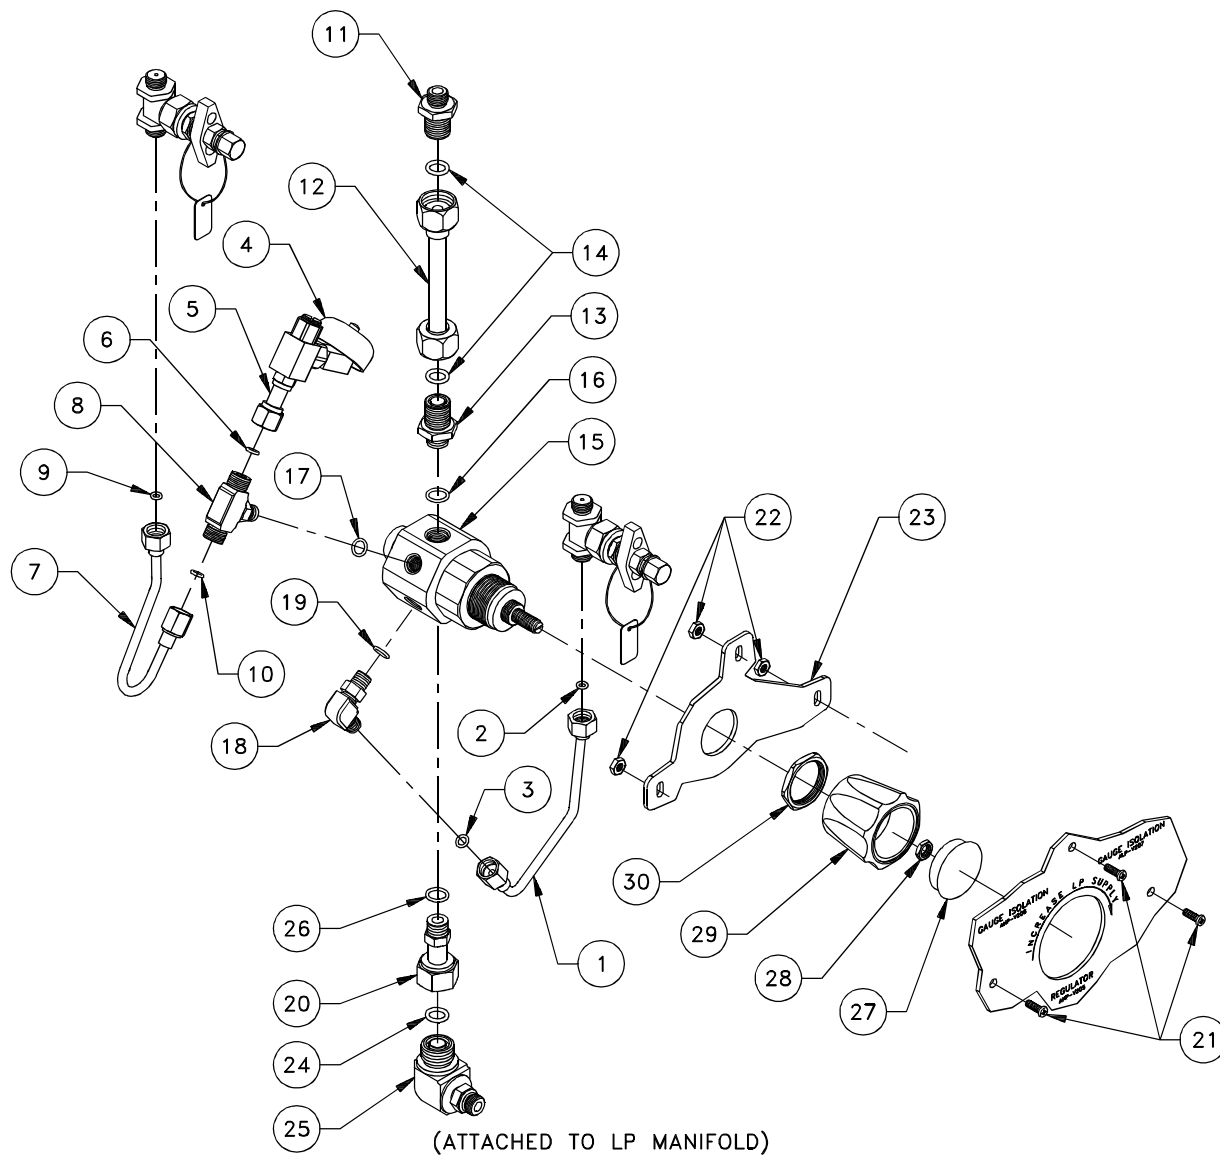

Figure 6-8. Regulator (AHP-V205)
### 6.5.2.9 Regulator (AHP-V205) Removal and Replacement (Figure 6-8).
- (2) Install O-ring (16) on connector (13). Screw connector into regulator inlet port; hand-tighten.
- (3) Ensure tee (8) retaining nut is fully backed off of O-ring seating surface. Install O-ring (17) on tee (8). Screw tee into regulator port next to inlet adapter and hand-tighten. Orient tee parallel to back face of regulator and hand-tighten tee retaining nut.
- (4) Ensure elbow (18) retaining nut is fully backed off of O-ring seating surface. Install O-ring (19) on elbow (18). Screw elbow (18) into regulator port adjacent to tee; hand-tighten.
- (5) Install O-ring (26) on connector (20). Screw connector (20) into regulator; hand-tighten.
- (6) Install O-ring (24) in elbow (25) on back of LP manifold.
- (7) Place regulator (15) and bracket (23) on CPA so that inlet port is pointed toward three-way ball valve.
- (8) Screw connector (20) large nut onto elbow (25); hand-tighten.
- (9) Install three screws (21) and locknuts (22) using #2 cross-tip screwdriver and 3/8" wrench. Do not tighten.
- (10) Using 15/16" wrench, tighten connector (13) onto regulator.
- (11) Using 11/16" wrench, tighten connector (20) small nut onto regulator.
- (12) Install O-ring (6) on union (5). Hand-tighten union (5) nut onto tee (8), turning tee slightly, as required. Situate LP alarm (4) as shown in Figure 6-8, positioning alarm body beneath tube (12).
- (13) Install O-rings (9, 10) on tube (7). Install tube between HP gauge isolation valve and tee (8). Position tee slightly, as required; hand-tighten tube nuts.
- (14) Install both O-rings (14) on connector (11) and connector (13). Carefully install tube (12); hand-tighten tube nuts.
- (15) Holding connector (11) with 15/16" wrench, tighten tube (12) upper nut with 1" wrench. Holding connector (13) with 15/16" wrench, tighten tube (12) lower nut with 1" wrench.
- (16) Using 1" wrench, tighten connector (20) large nut.
- (17) Using 11/16" wrench, tighten tube (7) nuts (between HP isolation valve and tee (8)).
- (18) Grip LP alarm (4) and tube (12), and tighten union (5) nut with 11/16" wrench. Ensure alarm does not touch tube (12) or LP gauge isolation valve (ALP-V207).
- (19) Using 11/16" wrench, ensure tube (7) nut is tight against tee (8).
- (20) Using slim 9/16" wrench, tighten tee (8) retaining nut.
- (21) Install O-rings (2, 3) on tube (1). Install tube (1) assembly between LP gauge isolation valve and elbow (18), positioning elbow to accommodate tube. Hand-tighten tube nuts. Using 11/16" wrench, tighten tube nuts. Using slim 9/16" wrench, tighten elbow (18) retaining nut.
- (22) Using #2 cross-tip screwdriver and 3/8" wrench, tighten regulator bracket screws (21) and nuts (22).